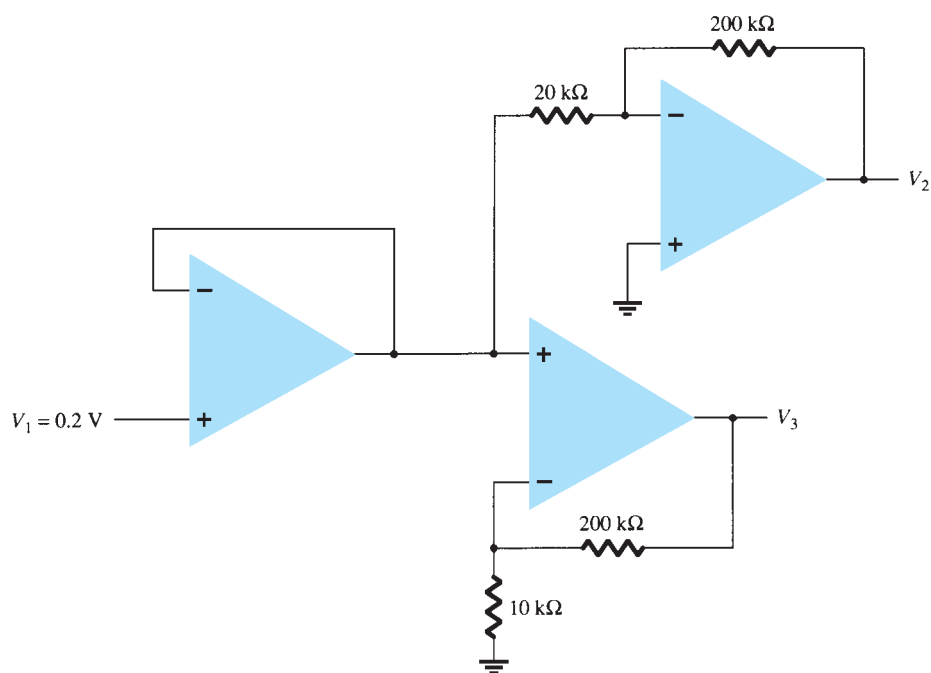

FIG. 10.72
13. Calculate the output voltages V_2 and V_3 in the circuit of Fig. 10.72.